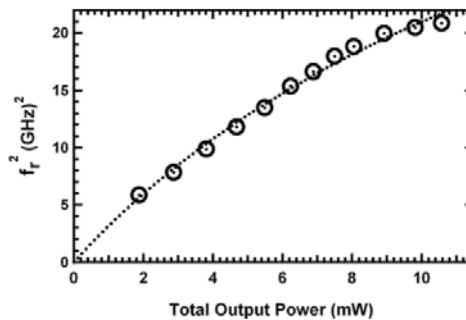

Figure 1
Figure 1 : (left) scanning electron microscope (SEM) view of an integrated circuit (without heaters). Right : schematic view of an electric heater on top of an optical waveguide.
1) Comment the data of **Figure 1**. What are the magnitudes on the "X" and "Y" axis? What relationships exist between the different magnitudes? What is the interest of the various semiconductor materials mentioned for the emission.
2. Figure 1 gives the squared RO frequency (circles) as a function of the total output power (mW). The dashed line is for guiding eyes only. Explain why Eq. (3) can not reproduce the data set shown in Figure 1. Why is that?